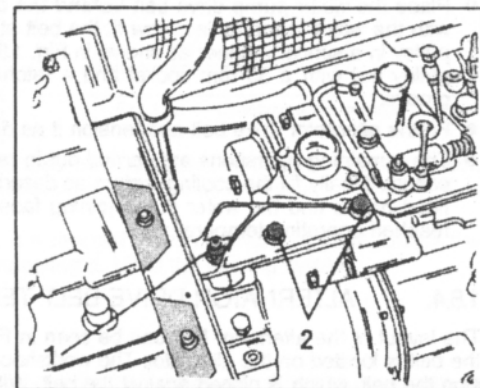

Fig. 1.84. — The engine mounting on the water pump side.
- Remove the nut (1) in Fig. 1.84, followed by the bolts (2) to remove the mounting carrier from the water pump. Remove the carrier. Make absolutely sure that the engine is well supported before the parts are removed.